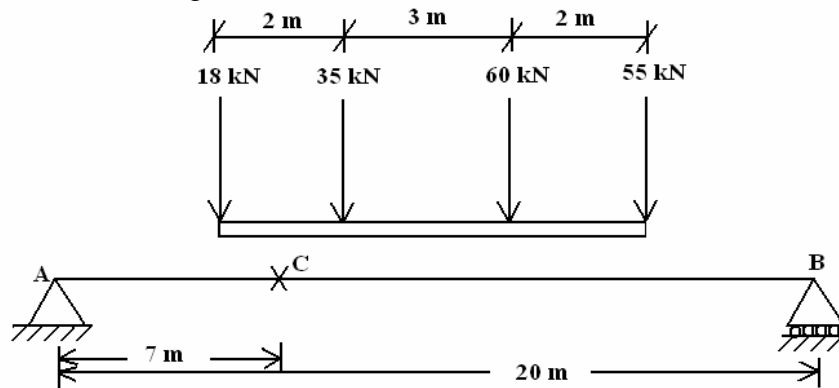

Fig.4
6. The system of concentrated loads shown in Fig.4 rolls from left to right on the girder of span 20 m, 55kN load is leading the loads. For a section at 7 m left support, determine